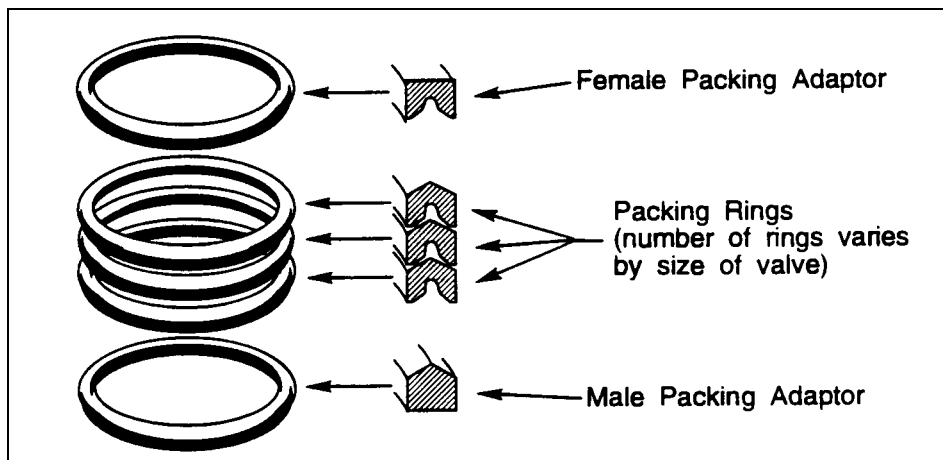

Figure 4 — Correct Packing Installation Sequence
8. For valves with low friction packing, lubricate the new packing (A9), then install it one ring at a time in the sequence shown in Figure 4.
8. For valves with low friction packing, lubricate the new packing (A9), then install it one ring at a time. See Figure 4.